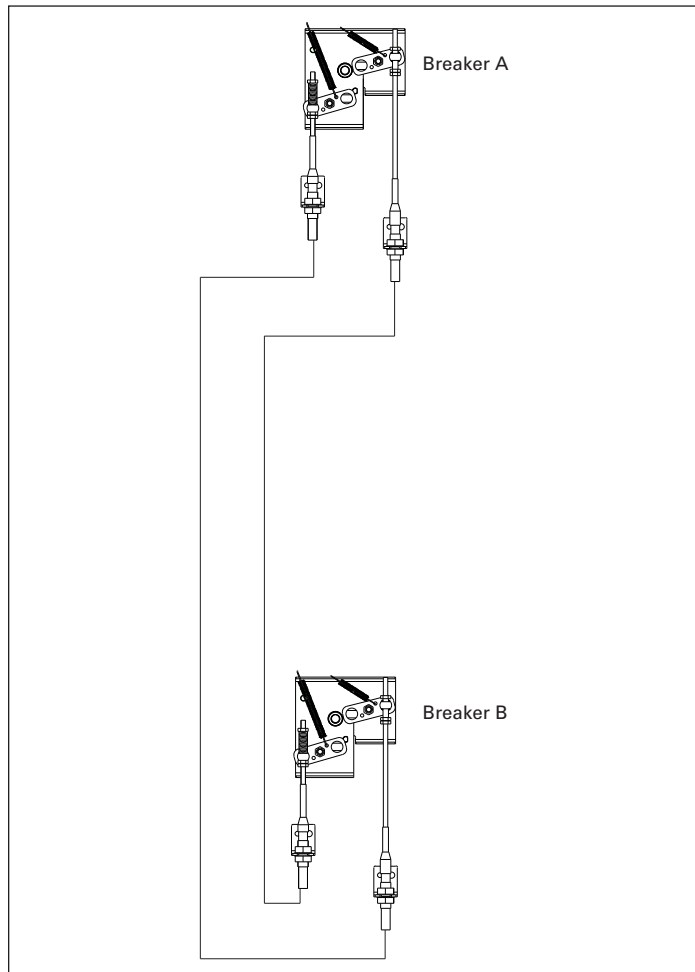

Figure 1. Cable routing for two-way interlock configuration
This information leaflet (IL) provides detailed installation instructions for installing and interconnecting one drawout Type NF frame breaker to another type of low voltage circuit breaker (LVCB) in any position (see A, B in **Table 1**) for a two-way interlock configuration as shown in **Figure 1**. When purchasing kits for a two-way interlock configuration setup, additional interlock kits (the types of interlock kits and the other breakers on which they can be installed that are compatible with this kit are listed in **Table 2**) are required for the other breaker as well as the interconnecting cable kits (one is required).